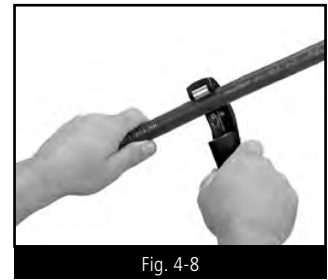

Fig. 4-8
STEP 1 CUT-TO-LENGTH (FIG. 4-8)